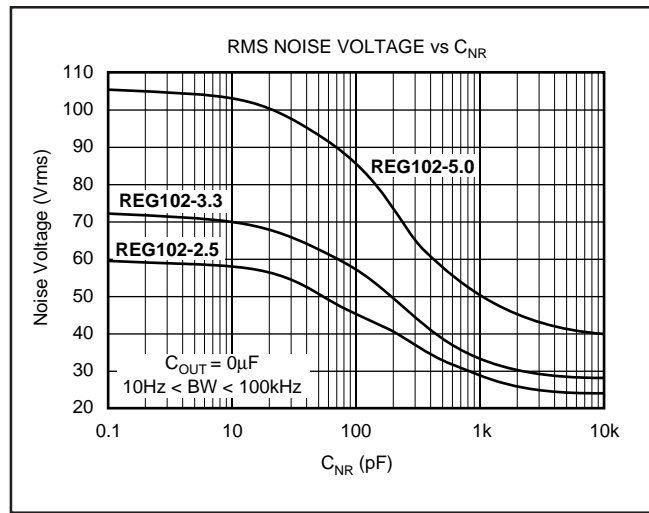
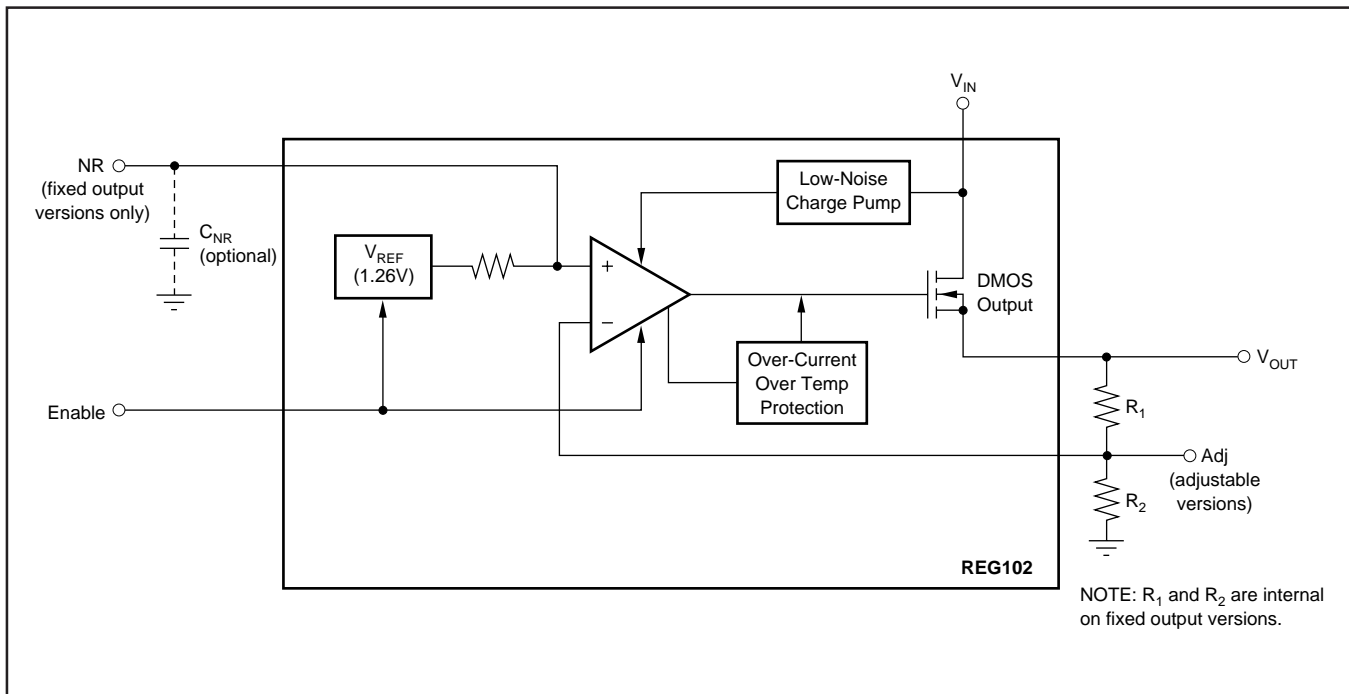

FIGURE 5. Output Noise versus Noise Reduction Capacitor.
FIGURE 4. Block Diagram.
Connecting a capacitor, C_{NR} , from the Noise Reduction (NR) pin to ground forms a low-pass filter for the voltage reference. Adding C_{NR} (as shown in Figure 4) forms a low-pass filter for the voltage reference. For $C_{NR} = 10\text{nF}$, the total noise in the 10Hz to 100kHz bandwidth is reduced by approximately a factor of 2.8 for $V_{OUT} = 3.3\text{V}$. This noise reduction effect is shown in Figure 5 and as *RMS Noise Voltage vs C_{NR}* in the Typical Characteristics section.